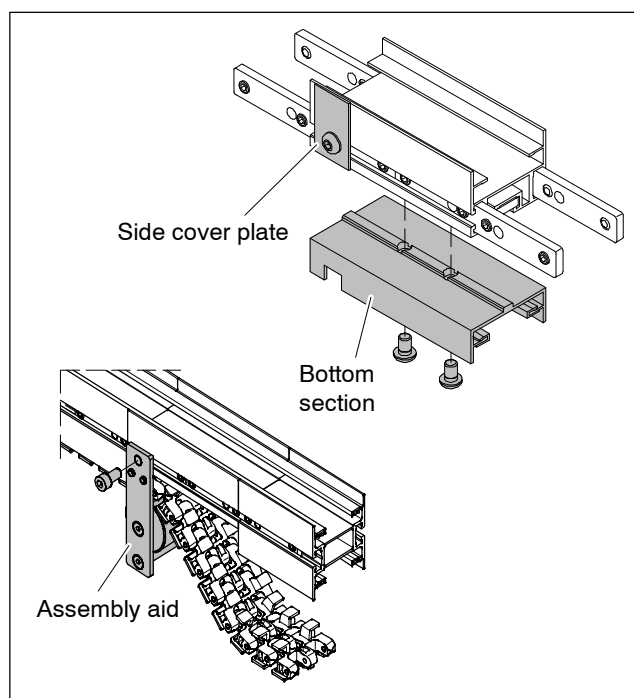

Fig. 26: Chain assembly unit
- Swing up side cover plates and fasten. Remove bottom section of the chain assembly unit (see Fig. 26).